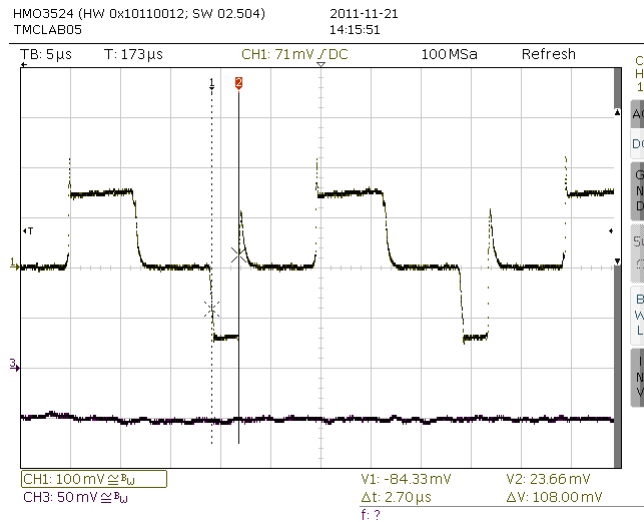

figure 4: Measure the duration of the fast decay state (2.7µs): CH1: sense resistor voltage, CH3: coil current
1. Stop the motor at a position, where one coil current has a medium value, e.g. at a fullstep position. Attach the oscilloscope probe and measure sense resistor voltage to GND. Take a single shot of one or a few chopper cycles as shown in figure 4 (showing a chopper operating at 40kHz).